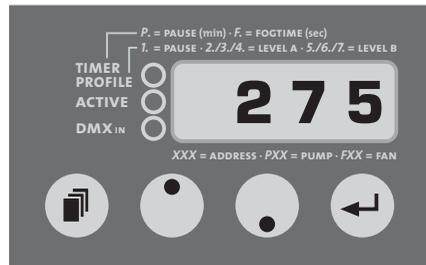

Fig. 3: Adjusting the DMX-start address
a) Press the Mode-button [14] at the control panel until three figures appear on the LED-display [17] (see Fig. 3).